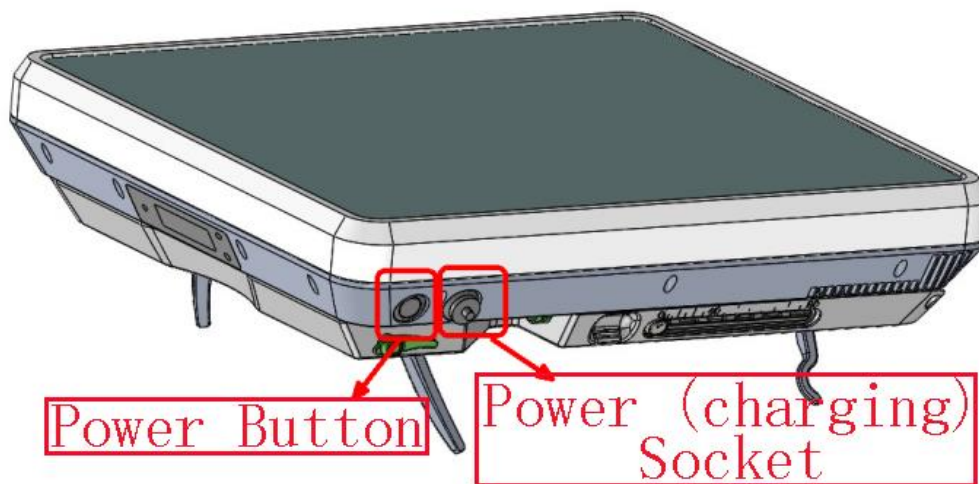

Figure 8-2-1 Power Socket
1. Press the power switch button as shown in Figure 8-2-1 to disconnect the Terminal power supply, and the screen display is shown in Figure 8-2-2.